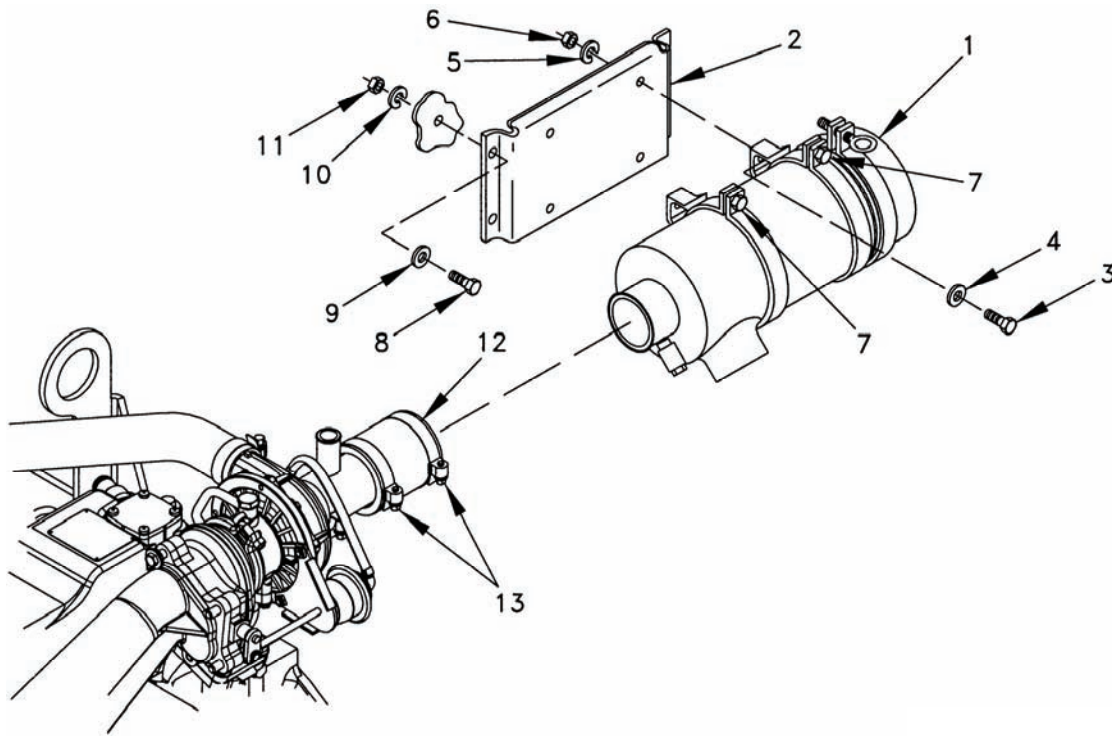

Figure 5-29. Air Cleaner and Bracket.
- a. Install air cleaner (1, Figure 5-29) to new air cleaner bracket (2) (Item 97, Table 5-1) with four bolts (3), washers (4), new lock washers (5), and nuts (6) retained from removal.
- b. Loosen two clamps (7) holding air cleaner (2) in position.
- c. Slide air cleaner (1) away from engine approximately 2 inches (5.1 cm). Do not tighten clamps (7).
- d. Install air cleaner and bracket with four bolts (8), washers (9), new lock washers (10), and nuts (11) retained from removal of old bracket. Ensure hose (12) mates with opening on air cleaner (1).